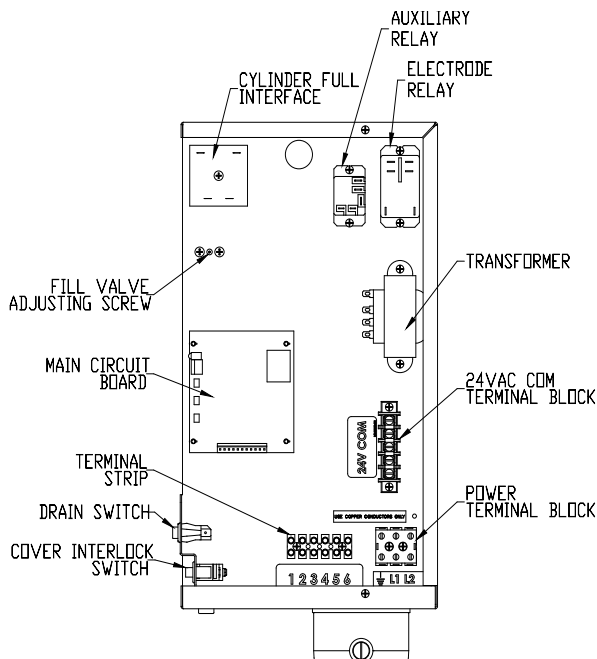
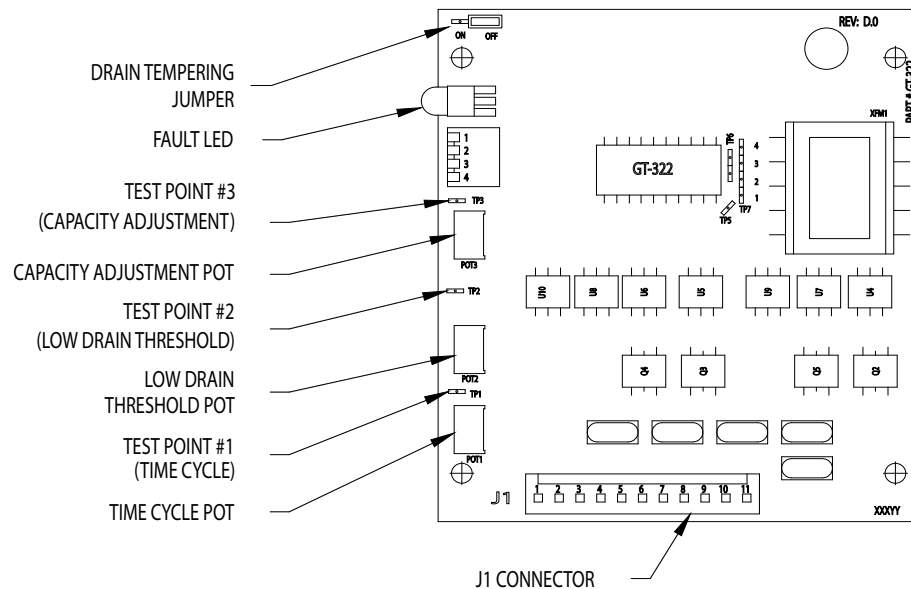

Figure 10 (View in from Right Side of Unit)
Figure 12
10. All units are equipped with a drain tempering feature which mixes cold fill water with the hot drain water to protect drain piping. **Unit is factory set with drain tempering inactive. To activate, move drain tempering jumper to ON position from circuit board.** (See Figure 12.) Depending on your fill water pressure, some adjustment of the fill metering valve may be necessary to ensure drain water of less than 140°F. (See Figure 10.)
Each circuit board (see Figure 12) features three test points to aid in the troubleshooting process. Each of these test points works on a 0-5 VDC scale. "0 VDC" = 0%. "5 VDC" = 100%. All readings are between the test point and ground.
| | Check water supply. If it is softened, increase the Low Drain Threshold Pot up to XX%. (See Figure 12.) |
| | Unit filling slower or at the same rate as the water is boiling, causing over concentration and foaming. Check restriction in fill line. Adjust the metering fill valve to allow greater flow of water. (See Figure 10.) |